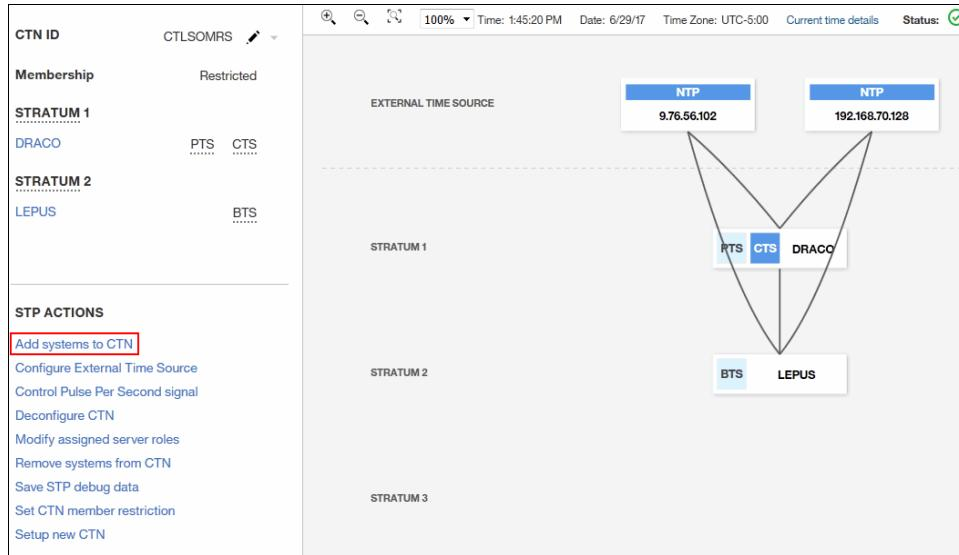

Figure 8-54 Add systems to CTN
1. Open the **Manage System Time** task from the HMC, and select **Add systems to CTN** from STP ACTIONS (Figure 8-54).